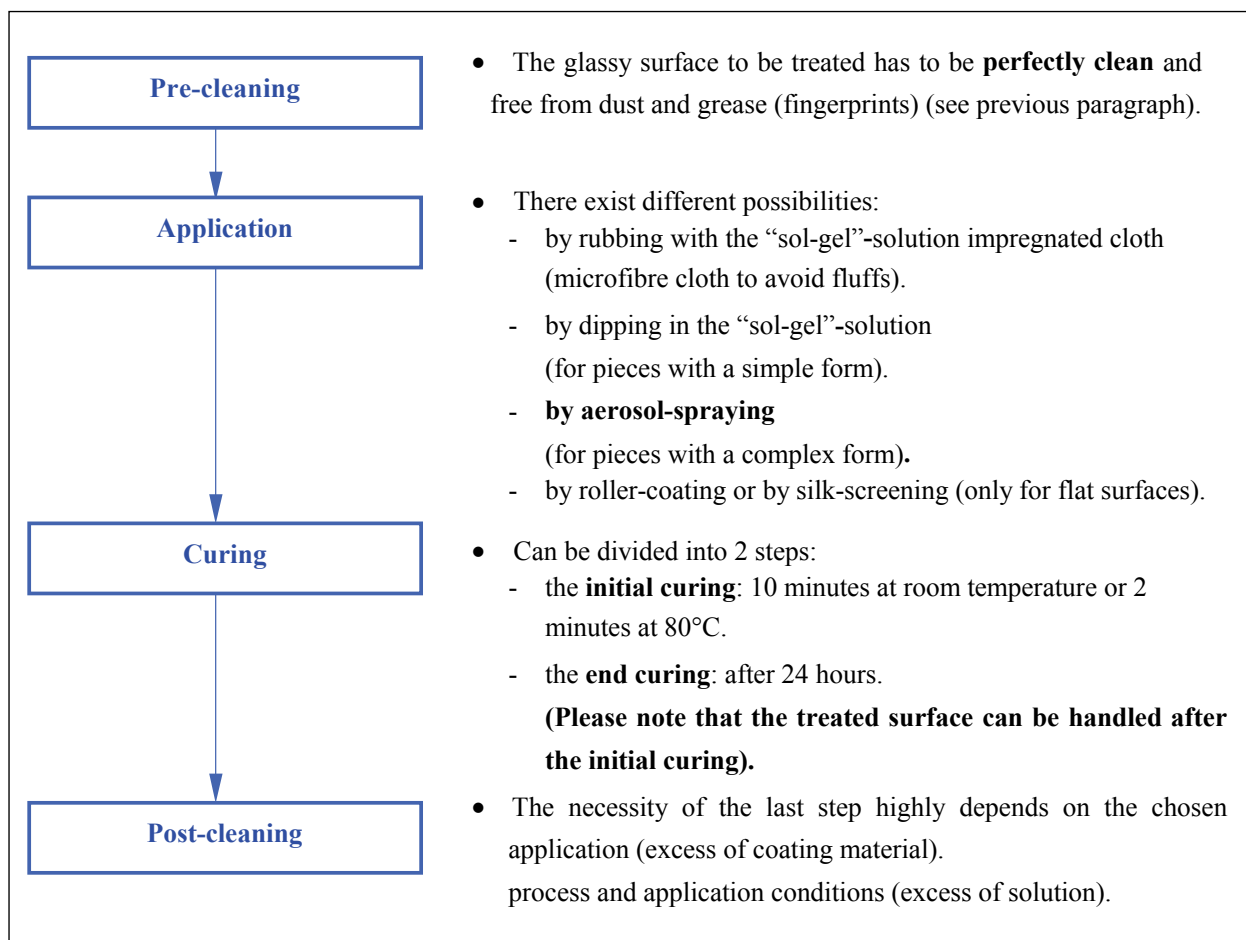

Fig. 9 Application process NanoClean
5.6 NanoClean / Application process (Fig. 9)